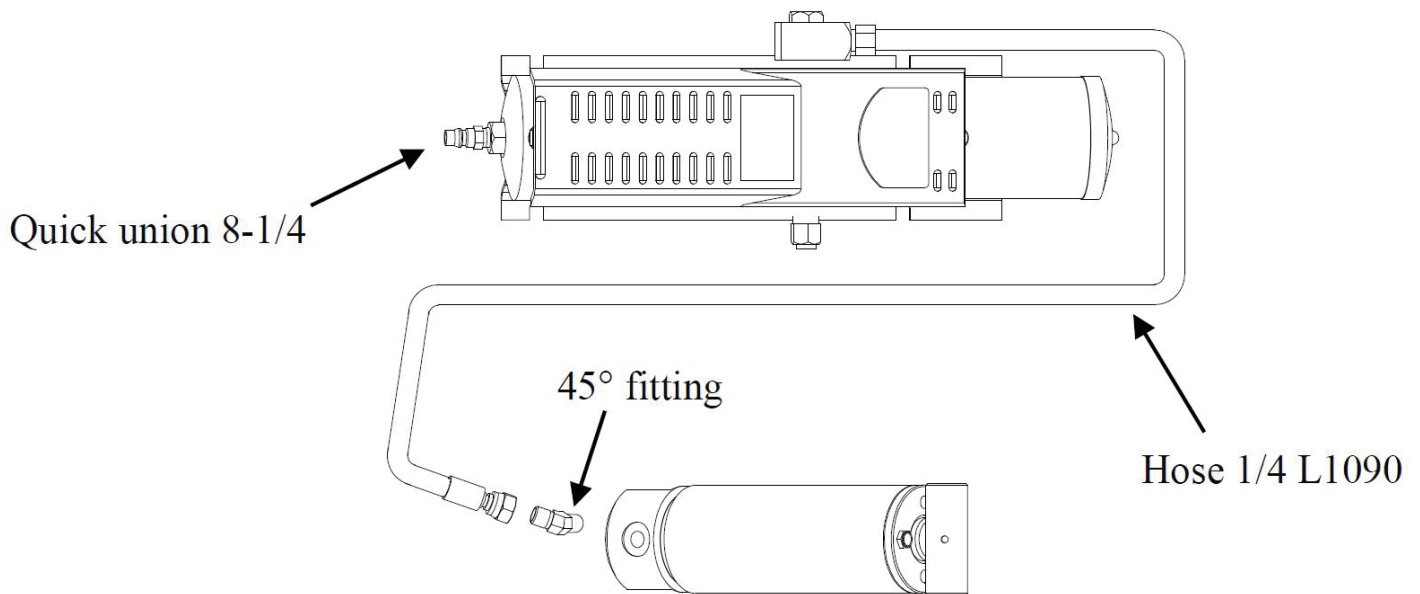

Figure 34 – Hydraulic Line Connection Of Jacking Beam
- Connect the hydraulic hose following the figure 34.